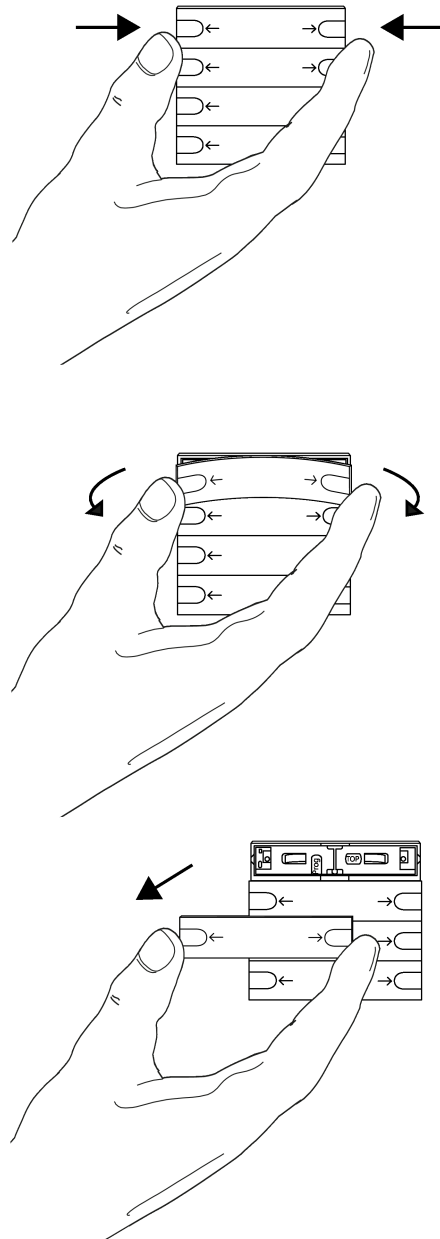

Figure 5: Removing the commissioning rocker
- Pull the commissioning rocker on both sides to release it from the push-button sensor (see figure 5).